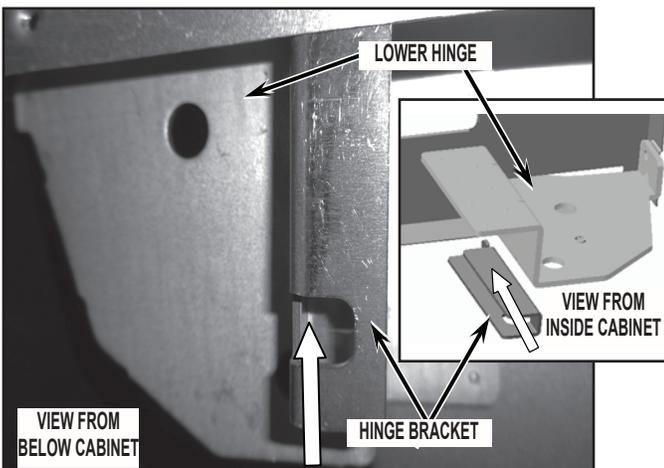

FIGURE 7
- Insert supplied hinge bracket into the cavity behind the cabinet front as shown in *Figure 7*.